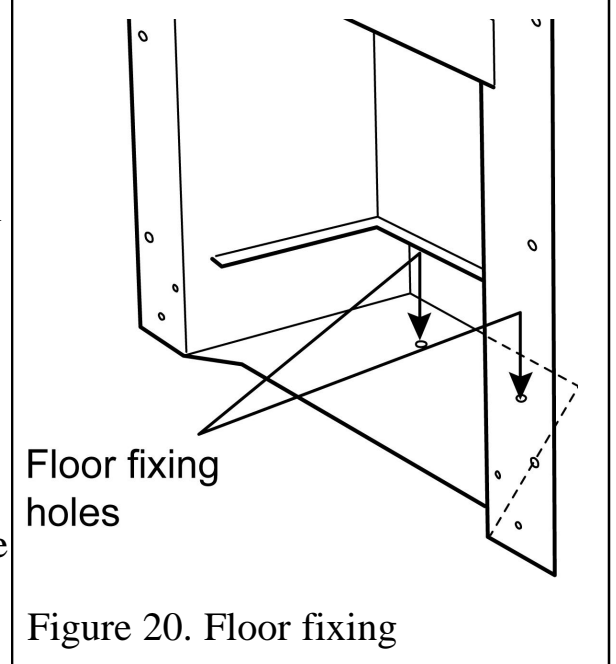

Figure 20. Floor fixing
8. Drill a hole into the fireplace floor through each of the two holes in the base of the hotbox using a no.12 masonry drill (See figure 20).